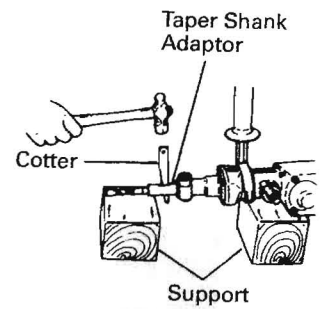

Fig. 9
(1) Install drill bit with taper shank in the taper shank adaptor.
(2) Turn the power on and drill a base hole.
(3) After cleaning out dust with a syringe, attach the plug to the anchor tip and drive in the anchor with a manual hammer.
(4) To remove the drill bit with taper shank, insert a cotter into the slot of the taper shank adaptor, place supports under the rotary hammer and tap the cotter with a manual hammer. (Fig. 9)